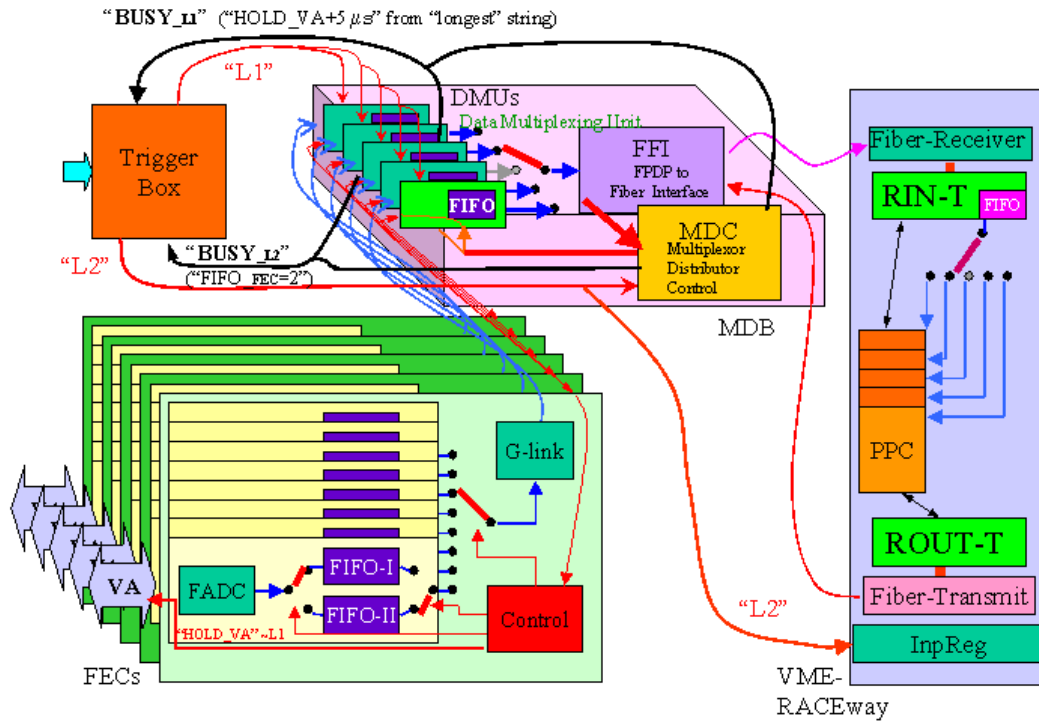

Figure 1: Block diagram of Si part of DAQ.
DAQ for Si-detector of PHOBOS setup (RHIC) with Scalable Power for read out and Zero Suppression is described (see Fig.1). Data from VA-HDR chips with analog multiplexor, are digitized by FADC. Digital buffers are multiplexed by DMU modules at speed 100 MBytes/sec and transmitted through FPDP [1] and virtual extender of FPDP to fiber (FFI). At the receiver end (in counting house) data from fiber are distributed between a number of dedicated processors (in RACEway multiprocessor frame [2]) for Zero Suppression (ZS). After ZS data are concatenated and transmitted to Event Builder.